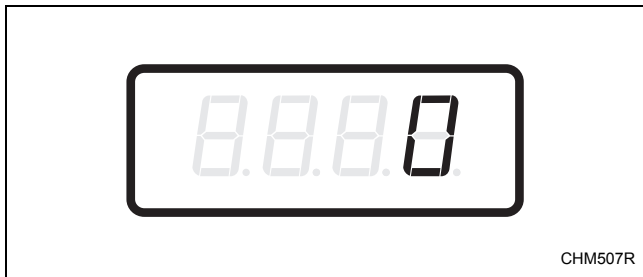

Figure 24
2. When “SA16” appears in the display, press the START (enter) keypad. There are five digits in the Special Vend A Vend Price #6. The fifth digit will appear in the display and will flash one second on and one second off. Refer to *Figure 24*.